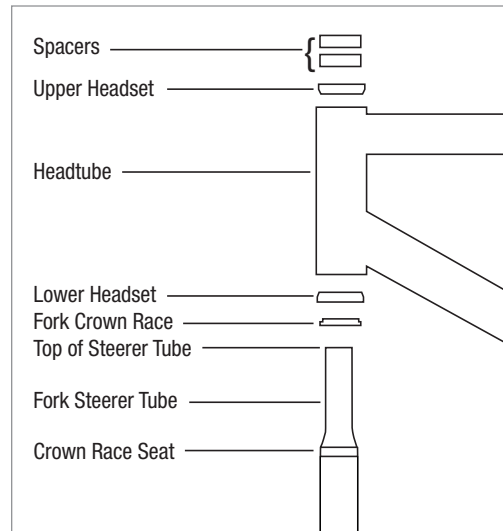

Figure 2
5. Install the bottom assembly of the headset per manufacturer's instructions and insert the fork into the headtube. Install the upper headset by following the manufacturer's instructions (Fig. 2).